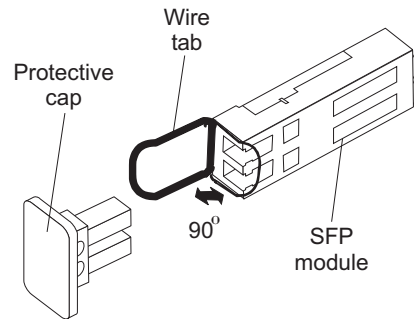

Figure 30. Unlocking the SFP module latch - wire variety
- For SFP modules that contain wire tabs, unlock the SFP module latch by pulling the wire latch outward 90°, as shown in Figure 30 on page 55.